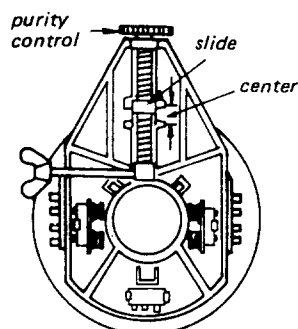

Fig. 1-1
3. Adjust purity control to center the slide between two projections as shown in Fig. 1-1.